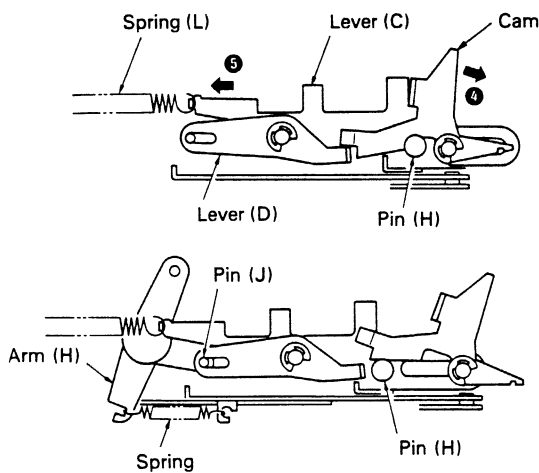

Fig. 32
3. When pin (H) is unlocked, lever (C) is pulled in the direction of arrow ⑤ by spring (L) (Figure 32). Lever (C) is stopped by pin (J) connected with arm (H). (Lever (C)